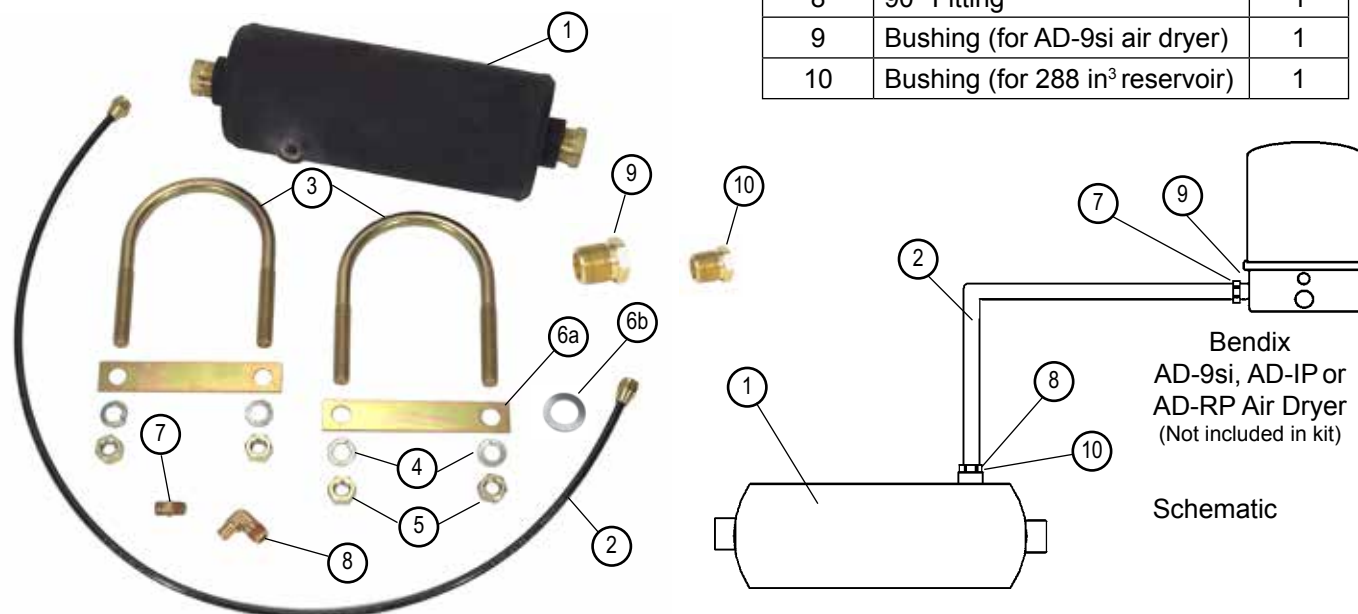

FIGURE 1 BENDIX® AD-9si®, AD-IP® AND AD-RP™ AIR DRYER EXTENDED PURGE KIT CONTENTS
Use the contents of this kit for this installation. Refer to Figure 1.
Use an appropriate wrench to remove the pipe plug from the extended purge port (PT 22) of the air dryer. Install bushing (9) into this port. Torque to 130–170 in-lbs. Then install the straight fitting (7) into bushing (9). Torque to 80–120 in-lbs. *Refer to Figure 1.*
Install bushing (9) into the remote purge port of the air dryer. Torque to 130–170 in-lbs. Then install fitting (7) into bushing (9). Torque to 80–120 in-lbs. *Refer to Figure 1.*
4. Install 3/4" NPT pipe plugs into each end of the reservoir (1) until finger tight. Continue installing the plugs until 2 to 3 turns from finger tight.
5. **For kits that contain a 288 in³ reservoir (1):** Install bushing (10) into the port on the side of the reservoir (1). Torque to 180–240 in-lbs. Then install the 90° fitting (8) into the bushing (10). Torque to 130–170 in-lbs. *Refer to Figure 1.*
6. Connect the air line (2) to the 90° fitting (8) in the reservoir (1) and the straight fitting (7) in the air dryer. Torque both to 60–90 in-lbs.